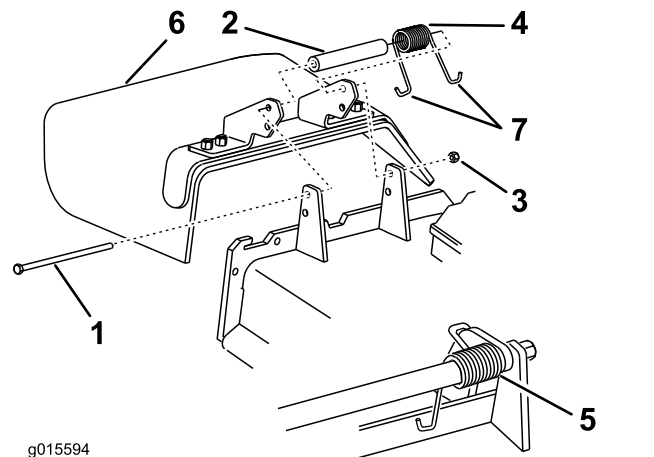

Figure 121
1. Remove the locknut, bolt, spring, and spacer holding the deflector to the pivot brackets (Figure 121).
2. Remove the damaged or worn grass deflector (Figure 121).
Note: Make sure that 1 J-hook end of the spring is installed behind the deck edge before installing the bolt as shown in Figure 121.
6. Place 1 J-hook end of the spring around the grass deflector (Figure 121).